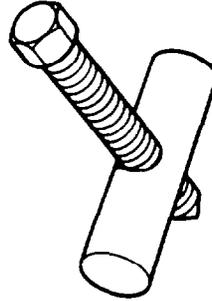

Fig. 216 — Drive Yoke Puller
- Remove the retaining bolt and clamp plate from the front output shaft drive yoke and remove the drive yoke, using the yoke puller illustrated in fig. 216.